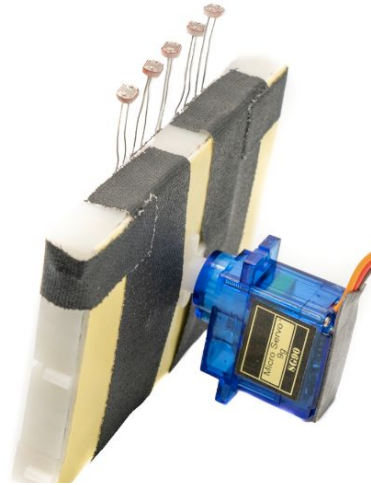

Figure 2.12
9. Once you run the code, the servo should be at position 90 degrees (Recall servo has a range of motion between 0 and 180 degrees -- 90 degrees is the center). Attach the servo arm attachment with the breadboard from step 7 onto the servo, with the photoresistors facing directly to front (parallel to servo's wires). (See **Figure 2.12** on the right)